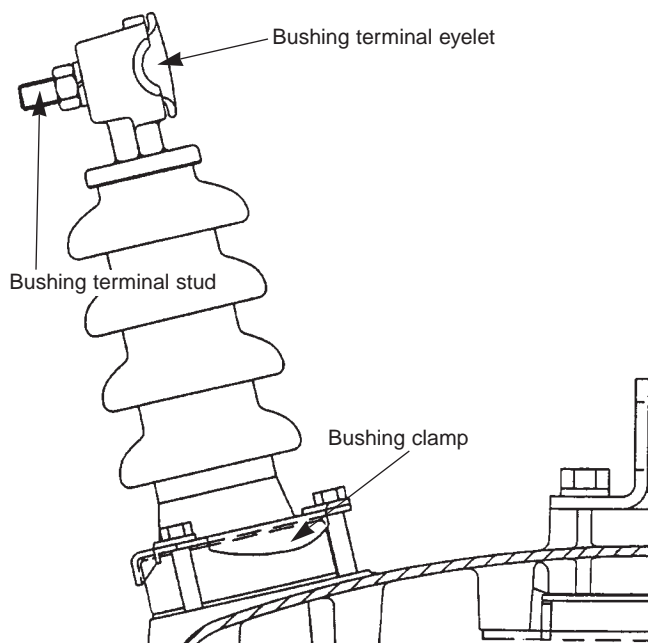

Figure 16.
11. Loosen the bushing clamps and position the bushing terminals with the studs toward the outside of the head casting and the eyelets toward the inside of the head casting (refer to Figure 16).